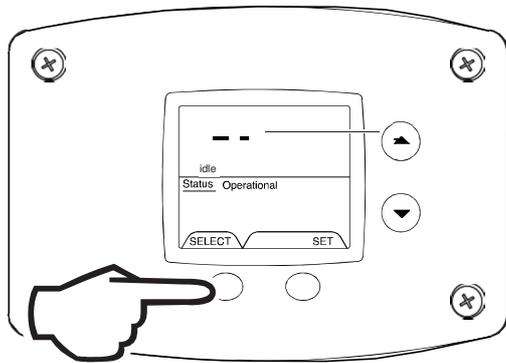

Fig. 38
- Error Code History (Displays if there are present error codes or up to 10 previous error codes). Water Heater Display will show -- if there are no error codes (Fig. 38).